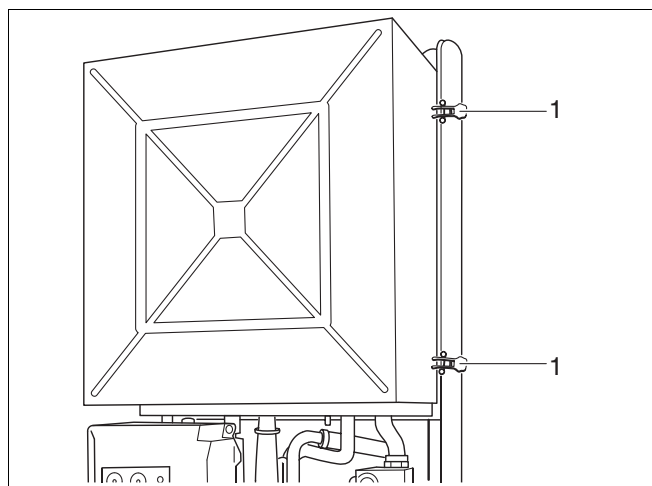

Fig. 47 600 Series 11S / 19S / 24S / 24C:
- Open the clip fastenings (fig. 47, item 1).